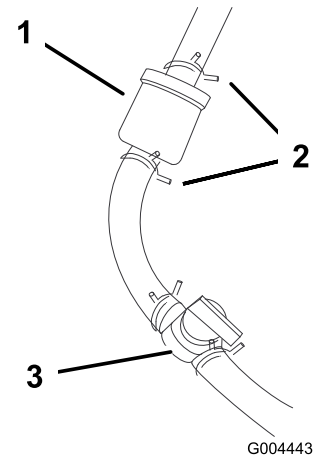

Figure 42
4. Close the fuel shut-off valve (Figure 42).
5. Squeeze the ends of the hose clamps together and slide them away from the filter (Figure 42).
7. Install a new filter and move the hose clamps close to the filter to secure the fuel line (Figure 42).